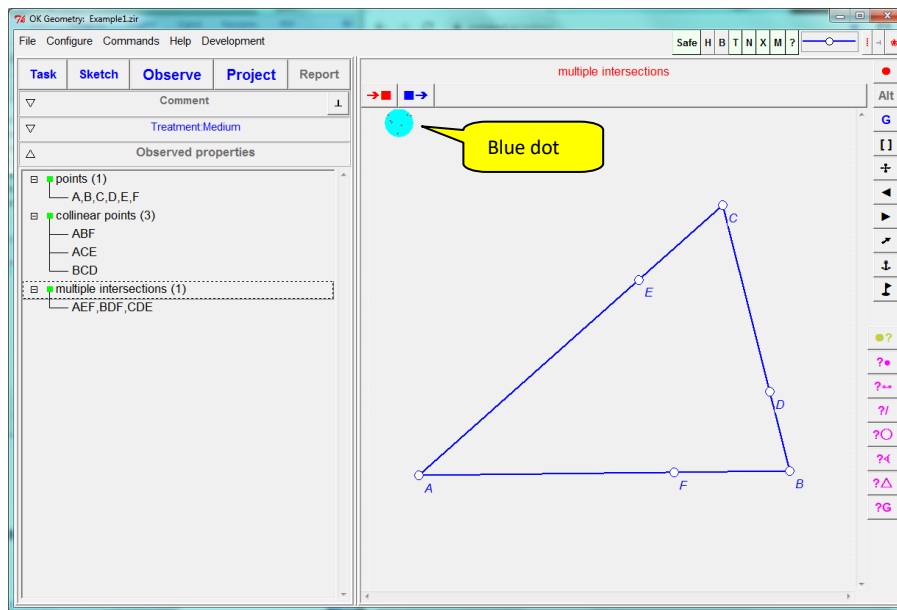

Figure 15
The blue dot on the left upper corner of the displayed construction (Figure 15) serves as an indicator as well as a switch between the exact and the perturbed visualisation. When in exact mode, the blue dot appears as gray disc with a dot in its centre , while in perturbed mode the blue dot contains some random red dots . The size of the blue dot (perturbation radius) shows the size of the perturbation area around free points. A **click on the blue dot** changes the modes from one to the other.
- Click the button **Observe**. The list of detected properties of the considered construction appears in the left pane in the Properties section (see Figure 15).